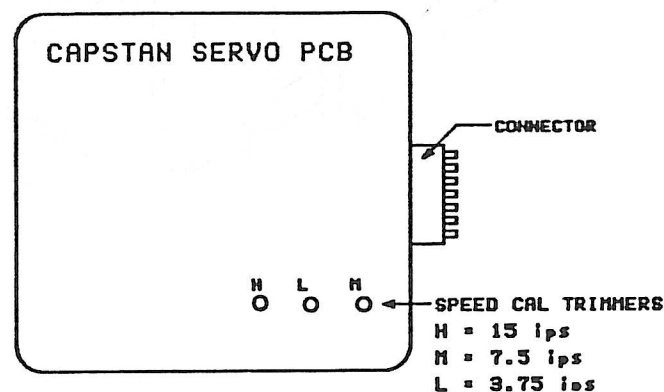

Figure 3 Location of Trimmers on Capstan Servo PCB
9. Place the machine in Play mode, and adjust the M trimmer on the Capstan Servo PCB until the counter indicates $3150 \text{ Hz} \pm 5 \text{ Hz}$. Refer to Figure 3 for the location of the trimmer.
8. Place the machine in Play mode, and adjust the M trimmer on the Capstan Servo PCB until the counter indicates $3150 \text{ Hz} \pm 5 \text{ Hz}$. Refer to Figure 3 for the location of the trimmer.